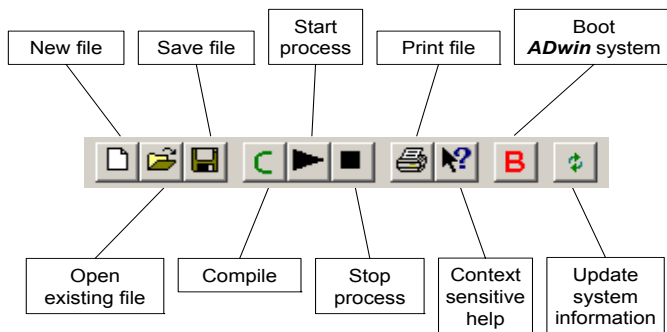

Fig. 2 – The tool bar
- The tool bar (see fig. 2)
You find further information about the process window in chapter 2.3.12 on page 35, about the toolbar see fig. 2.